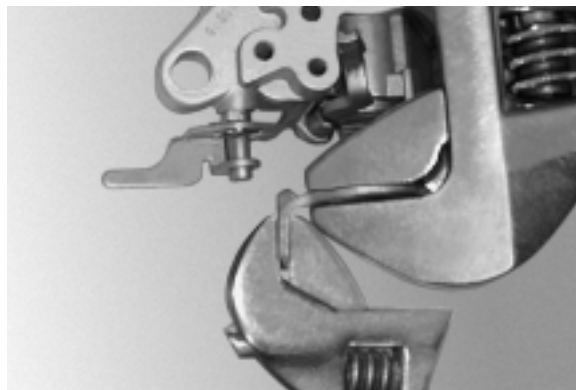

Fig. 2
- H. With the carburetor in a suitable work area, bend the damper tab on the main throttle arm until it is flat. (See *Figs. 2, 3, 4.*)